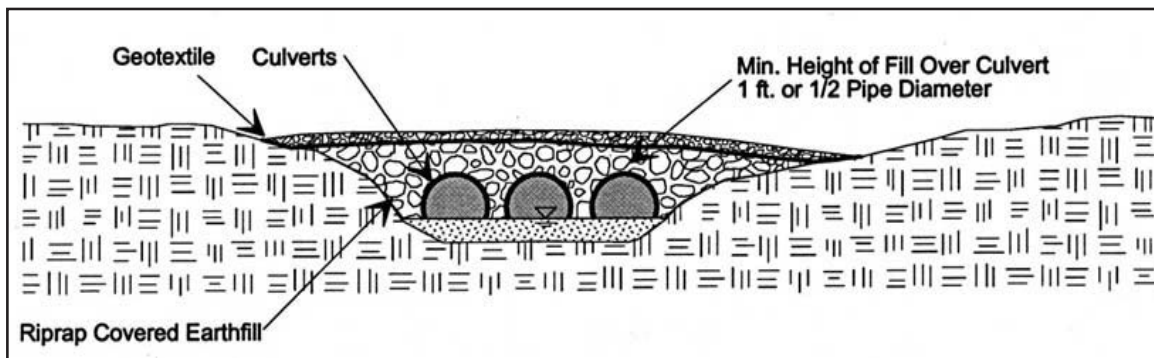

Figure 6.12 Typical temporary culvert stream crossing.
- Divert the stream flow. Prepare the pipe bedding. Situate the culvert pipe on a firm, even foundation and keep the culvert parallel to the direction of flow. See Figure 6.12.